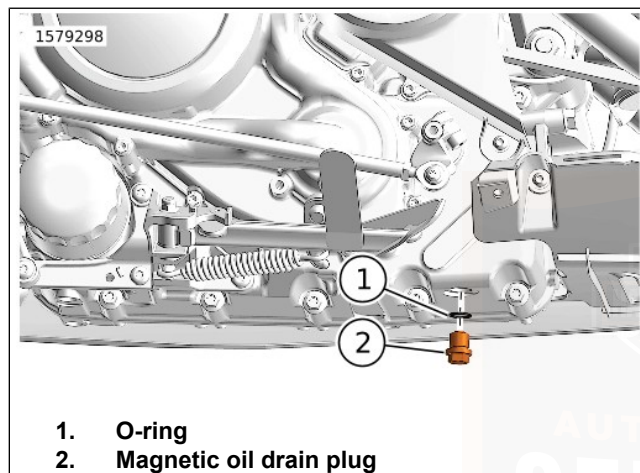

Figure 57. Oil Drain Plug (Typical)
5. Figure 57 Remove magnetic oil drain plug (2). Allow oil to drain completely.
- a. Remove and discard O-ring (1).
10. Figure 57 Install **new** O-ring (1).
11. Install magnetic oil drain plug (2). Tighten.